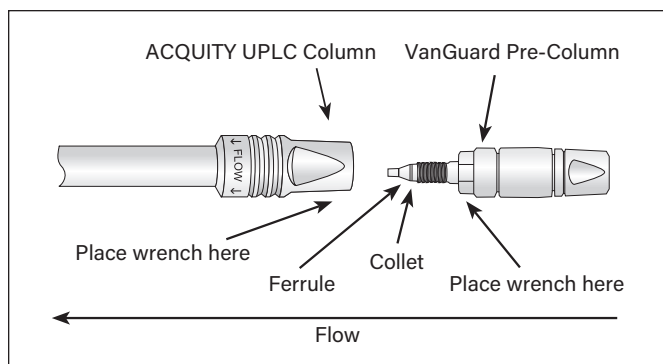

Figure 1. VanGuard Pre-Column installation diagram.
6. Tighten with two 5/16" wrenches placed onto the ACQUITY UPLC CSH Column flats and VanGuard Pre-Column hex nut (male end) as shown (Figure 1).